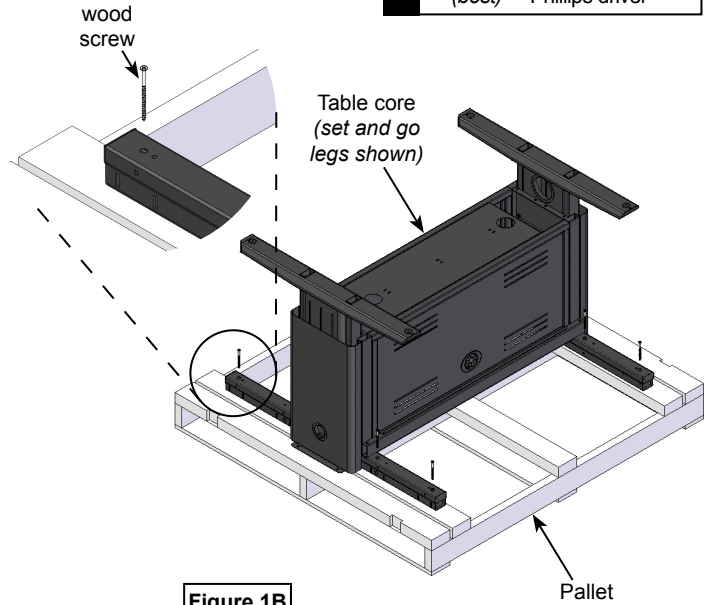

Figure 1B
2. Unscrew the (4) Phillips head wood screws securing the table core to the pallet. **Figure 1B.**